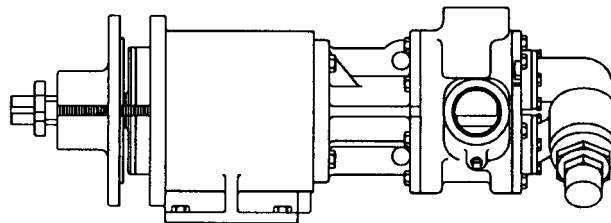

FIGURE 8
2. Turn the handwheels evenly to back out the bearing housing and outer magnet assembly. See Figure 8.